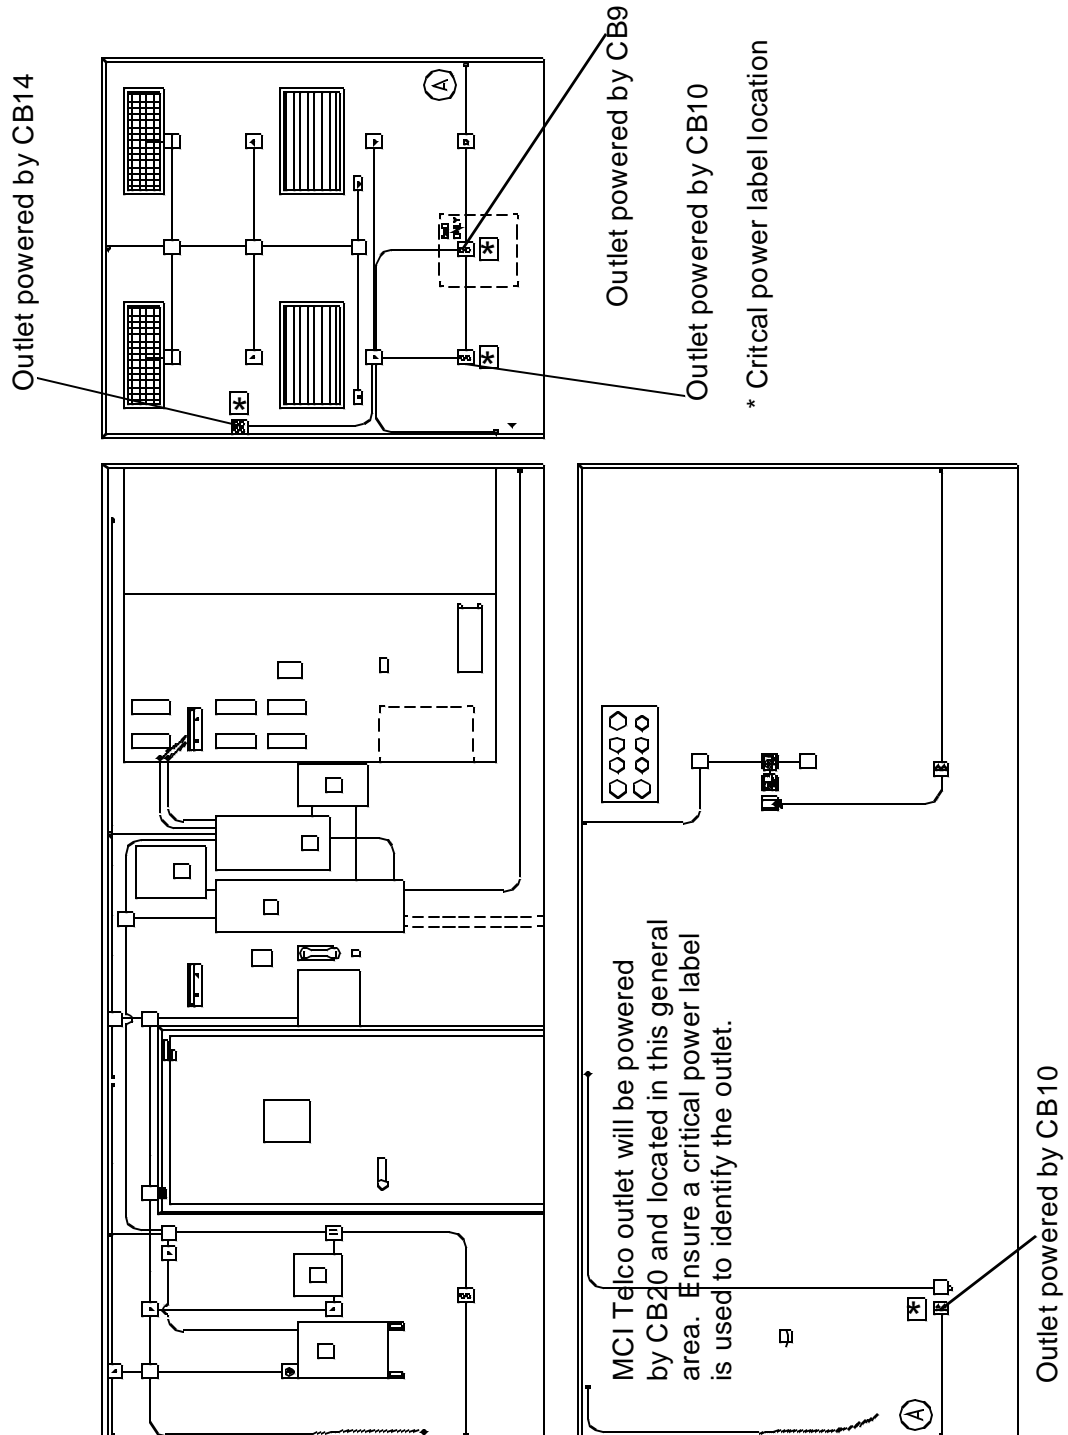
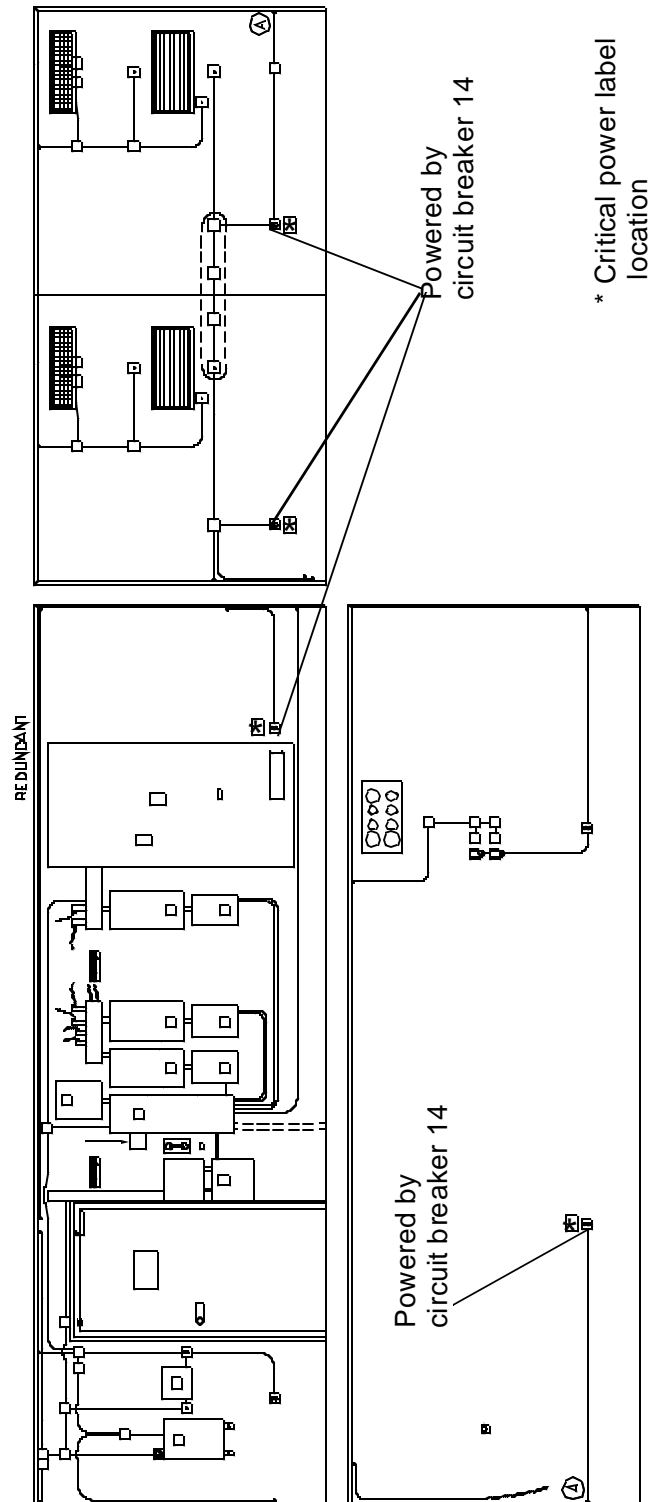

Figure 5. Single Channel Outlet and Label Locations
Figure 6. Redundant Site Outlet and Label Locations
13. Attach the Critical Power Labels (provided in the kit) for each outlet as shown in figure 5 for single channel sites and figure 6 for redundant sites.